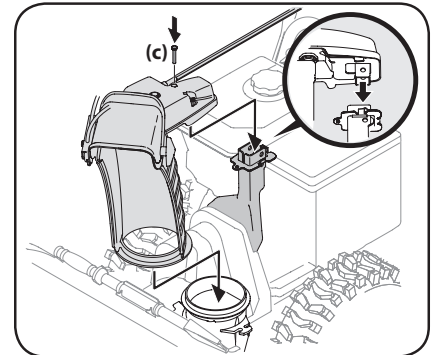

Figure 2-25
3. Place chute onto chute base and ensure chute control rod is positioned under handle panel. Install hex screw (c) removed in Step 1, but do not secure with wing nut at this time. See Figure 2-25.